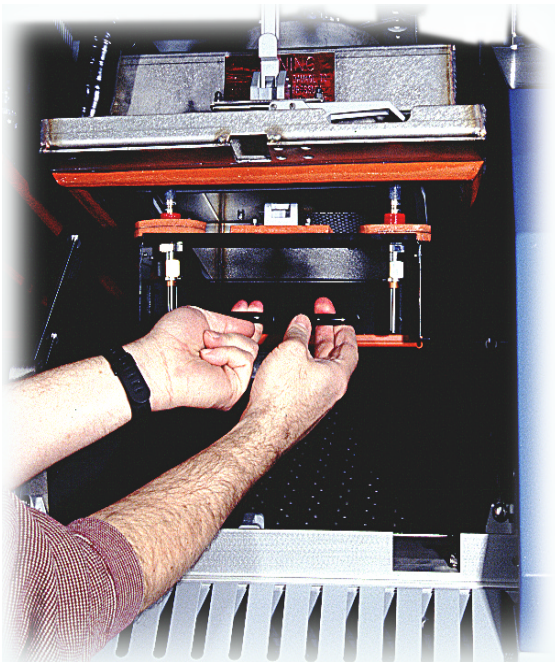

Figure 167: Lowering the Heat Exchanger
9. To remove the heat exchanger, lift the upper latch to a vertical position. It will free the front of the heat exchanger. To remove the heat exchanger unit, pull it down while lifting it up and over the "hooks" in the rear bracket that support the rear of the heat exchanger. Refer to Figure 167.